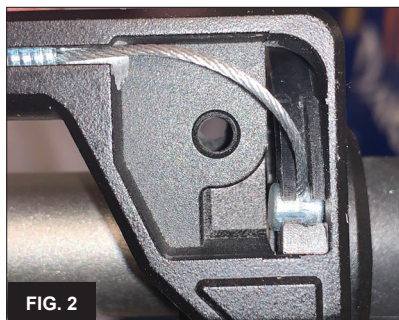

FIG. 2
6. Place throttle tube (A) onto the handle bar and place the upper housing (C) over the throttle tube. Place a small amount of grease on the barrel of the cable and insert it into the throttle tube. (Fig. 2)
6. Place throttle tube onto the handle bar and place the upper housing (C) over the throttle tube. Place a small amount of grease on the barrel of the cable and insert it into the throttle tube. (Fig. 2)